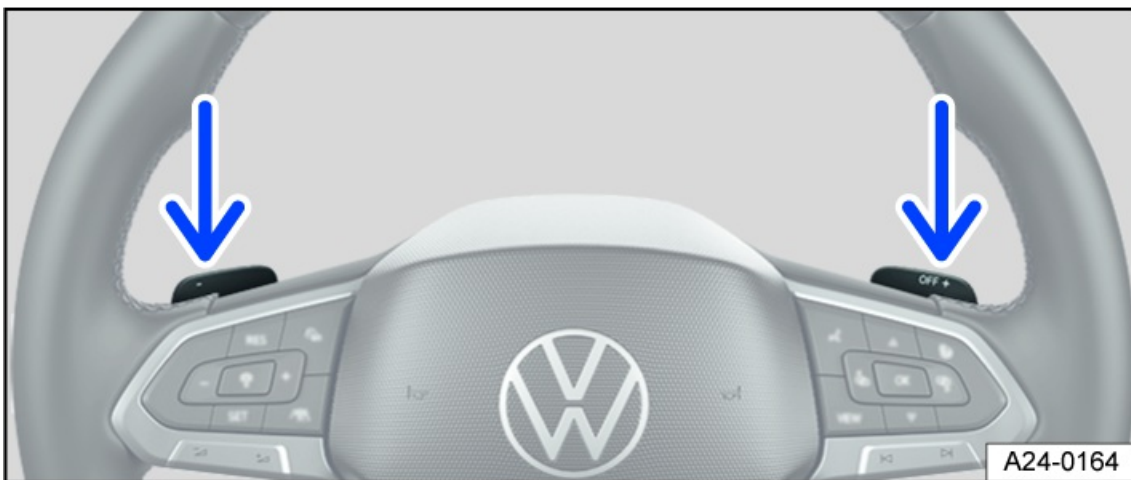

Fig. 87 Behind the steering wheel: shift paddles for the tiptronic.
You can switch to the tiptronic program from gears **D** and **S** by pulling a shift paddle *fig. 87*.
- To shift up a gear, pull the right-hand shift paddle toward the steering wheel *fig. 87*.
- To shift down a gear, pull the left-hand shift paddle toward the steering wheel *fig. 87*.